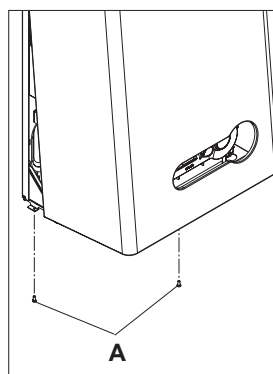

Fig. 23
4.7.1 CASING REMOVAL (fig. 23)